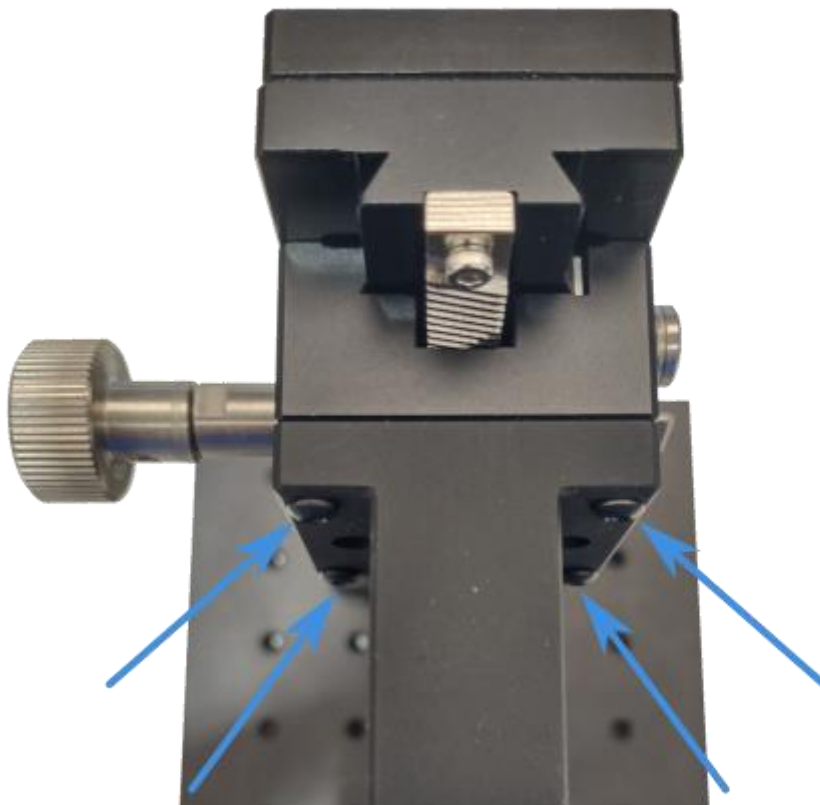

Figure 8.1. Mounting positions for attaching the Solar Simulator to the vertical stage platform.
1. **Height adjustable stage (sold separately).** The solar simulator lamp bracket is directly attached to the Z-stage platform, allowing manual adjustment of the lamp height. The lamp is attached to the stage using four M3 bolts as shown in **Figure 8.1**.